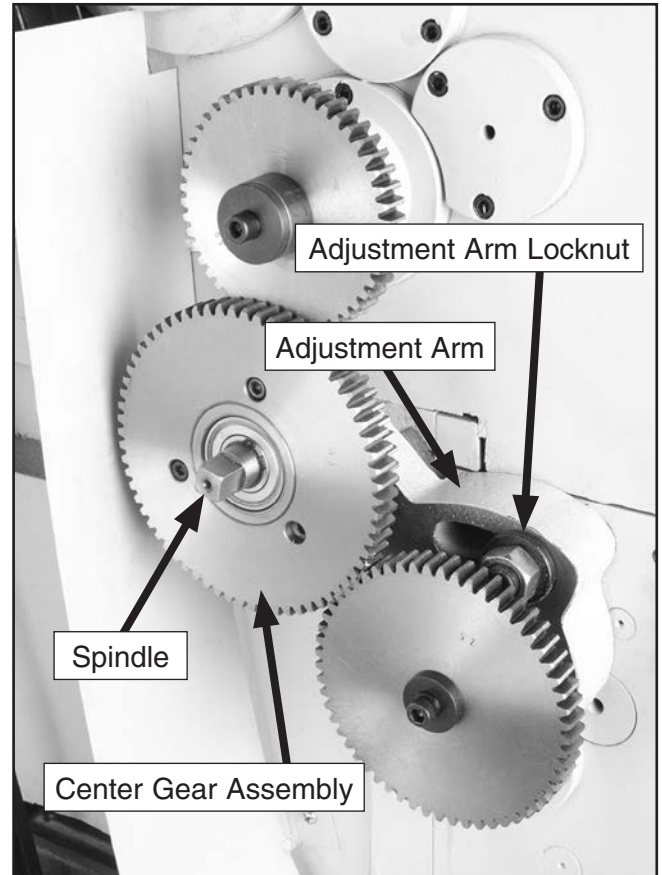

Figure 67. Center gear adjustment arm.
- Using a 24mm wrench, loosen the adjustment arm locknut (**Figure 67**), and let the adjustment arm swing away.